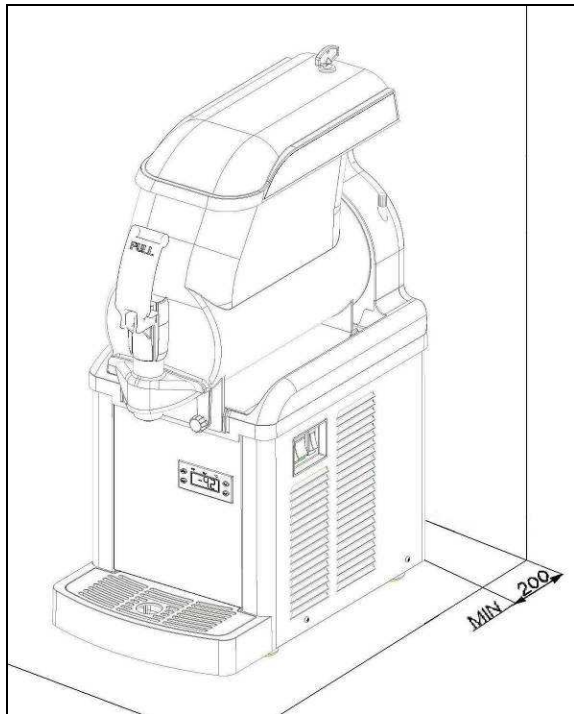

Fig. 2
- c) Rest the machine on a sturdy, flat surface making sure it is well ventilated by leaving a gap of 20 cm around it and do not install it near heat sources (fig.2); **we recommend you to maintain a room temperature between 24 and 32°C.**